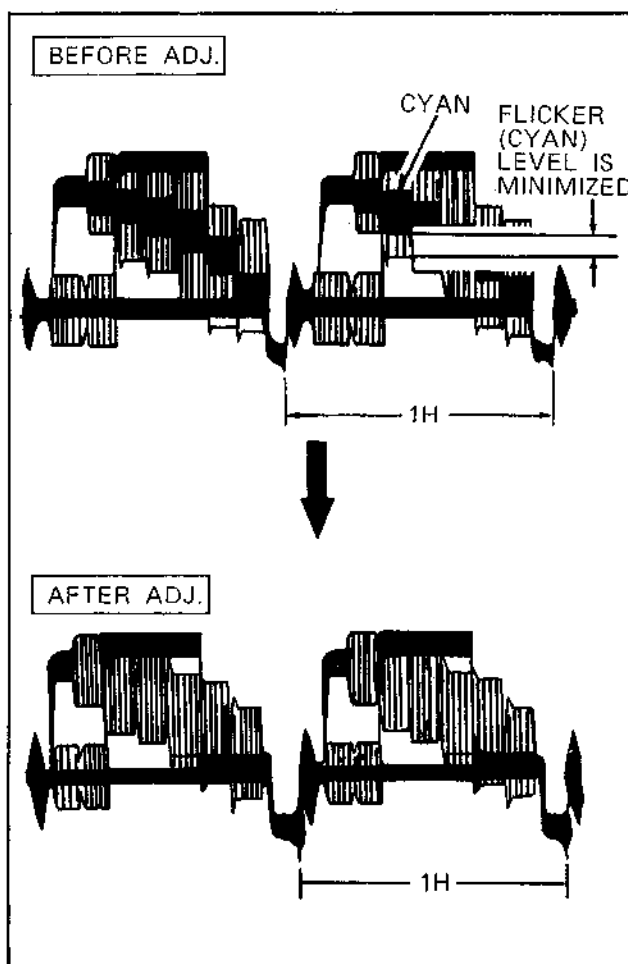

FIG. E30
5. Adjust VR8202 so that the flicker (cyan) level is minimized as shown in FIG. E30.